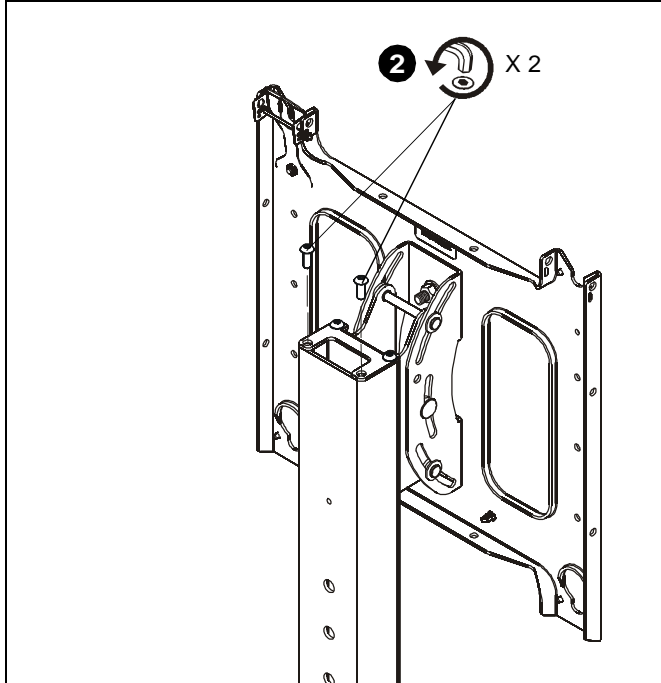

Figure 1
2. Remove rear two 5/16-18 x 3/4" button head cap screws from cart stand. (See Figure 1)